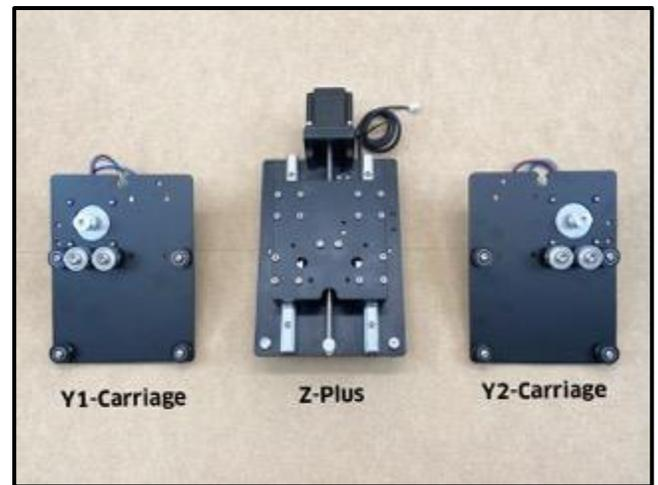

Figure 3-6
1. Gather the three (3) carriages (see **Figure 3-6**):